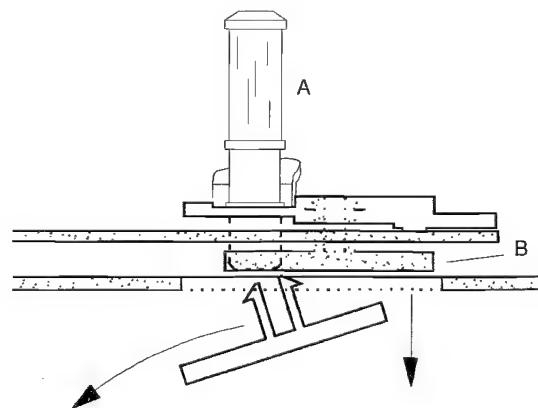

Fig. 15
- Unhinge the loading arm (left) from the holding plate and remove the latter downward from the drive assy through the recess in the chassis (Fig. 15).